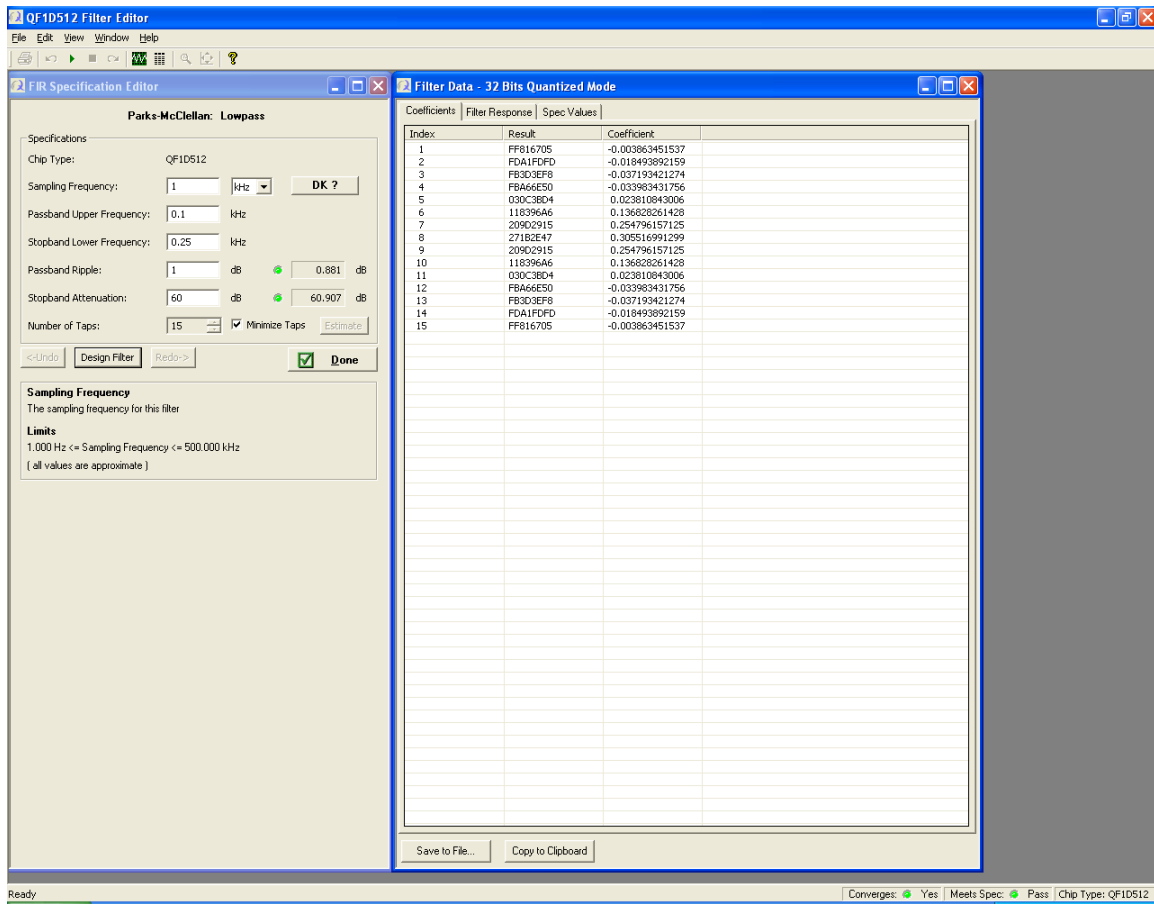

Figure 2. Export coefficients for each filter via the "Save to File" button
1. Design the filters using the *QFPro* filter editor (or other filter design tool of your choice), and save the coefficients for each filter. Save the coefficients by selecting **Filter Data** under the **Window** menu and then pressing the **Save to File** button at the bottom of the coefficient display (as shown in Figure 2). Select the file location, name the file, and press **Save**.